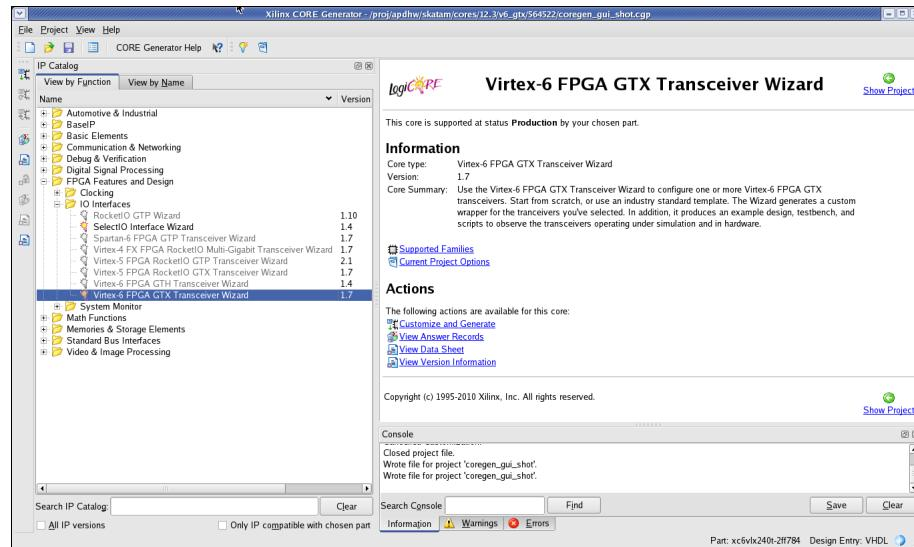

Figure 3-4: Locating the GTX Transceiver Wizard
1. Locate Virtex-6 FPGA GTX Transceiver Wizard 1.7 in the taxonomy tree under: /FPGA Features & Design/IO Interfaces. (See Figure 3-4)